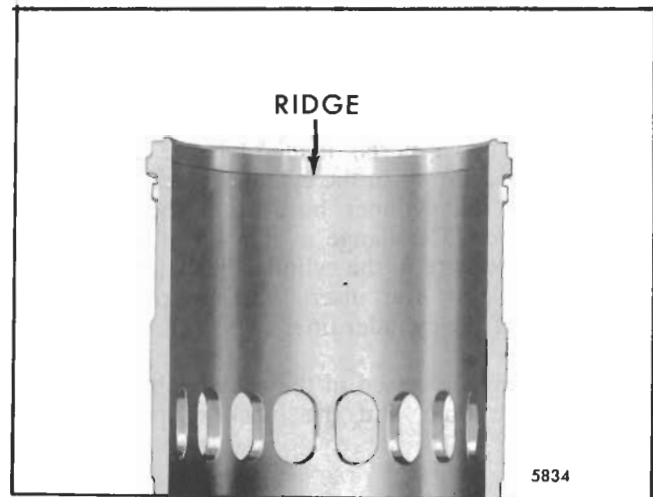

Fig. 4 - Cylinder Liner Ridge Due to Wear
2. To remove the ridge (Fig. 4) formed at the top by the piston ring travel. Otherwise, interference with the travel of the new compression rings may result in ring breakage. Therefore, even though the taper and out-of-round are within the specified limits, the glaze and ridge must be removed by working a hone up and down the full length of the liner a few times.